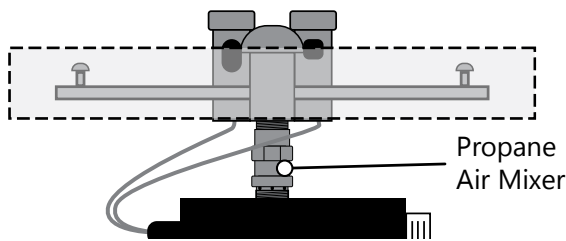

FIGURE 2: AIR MIXER LOCATION
- b. NOTE: The air mixer must be installed to use liquid propane. The “holes” on the air mixer should always face DOWN, away from the burner and pan. The air mixer should be installed immediately below the burner. (FIG 2)